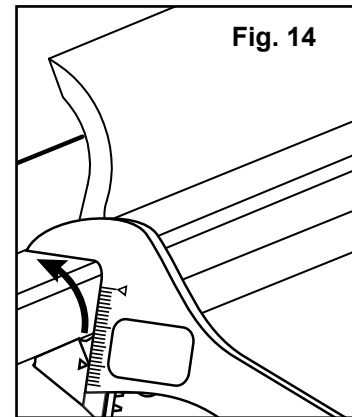

Fig. 14
2. Place the adjustable wrench on the bar and rotate bar until blade makes contact with head pulley/belt (Fig. 14).